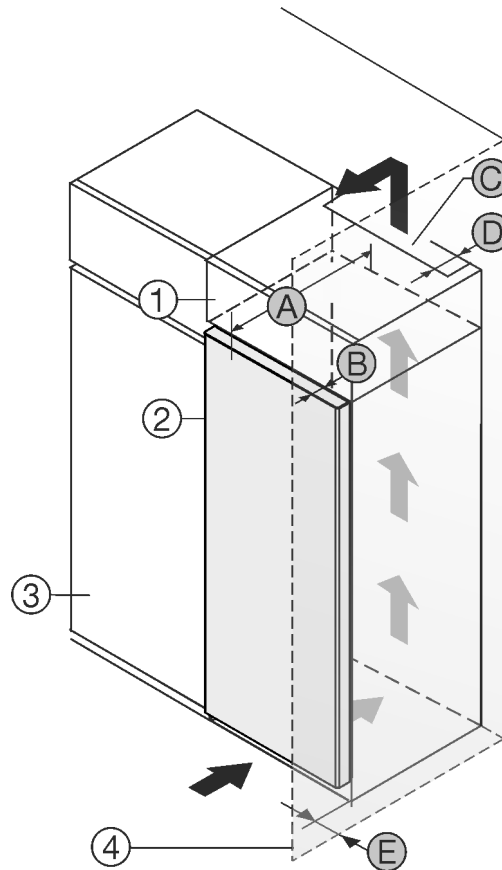

Fig. 1
- (1) Top cupboard *
- (2) Appliance *
- (3) Kitchen cabinet *
- (4) Wall *
- (A) Appliance depth *
- (B) Door depth *
- (C) Ventilation cross-section *
- (D) Distance to the rear of the appliance *
- (E) Distance to the side of the appliance *
You can place the appliance directly beside the kitchen cabinet Fig. 1 (3).*
There must be a ventilation shaft at the depth Fig. 1 (D) of the back of the top cupboard over the entire width of the top cupboard.*
The cross section of the ventilation gap Fig. 1 (C) must be maintained below the ceiling.*
If the appliance is set up with the hinges next to a wall Fig. 1 (4), the distance between the appliance and the wall must be at least 13 mm.*
In order to be able to fully open the door, the appliance must protrude by the depth of the door Fig. 1 (B) from the front of the kitchen cabinet. Regardless of the depth of the kitchen cabinets Fig. 1 (3) and use of wall spaces, the appliance can protrude further.*